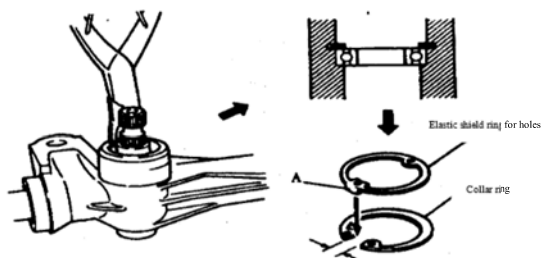

Fig.3.6-4
8) Set the collar ring into the ring groove of the steering gear housing tightly, and install the elastic shield ring for holes. The outstanding part "A" shall face the open part of the elastic shield ring and install the oil seal (new oil seal must be used). Please refer to Fig.3.6-4.